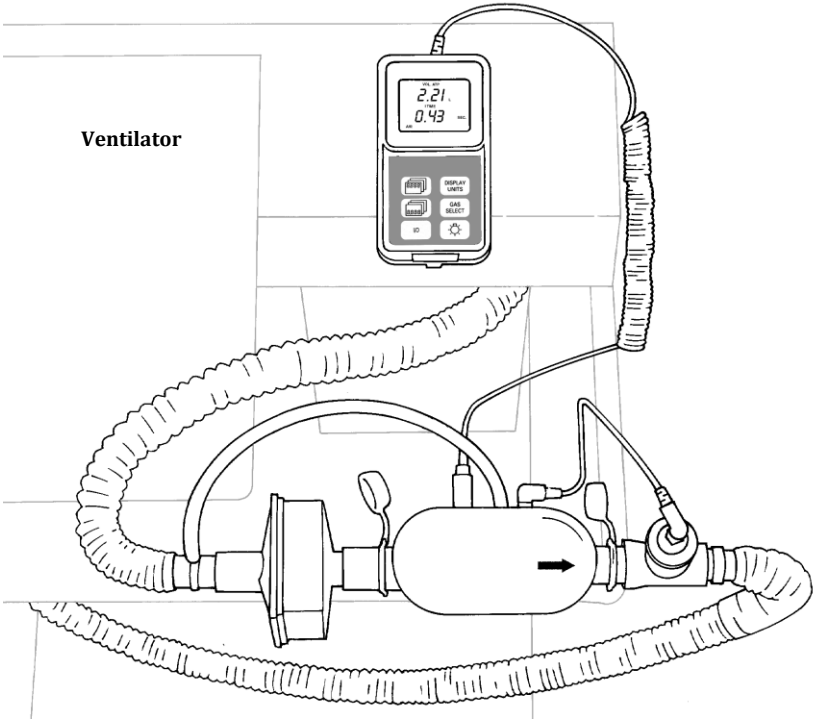
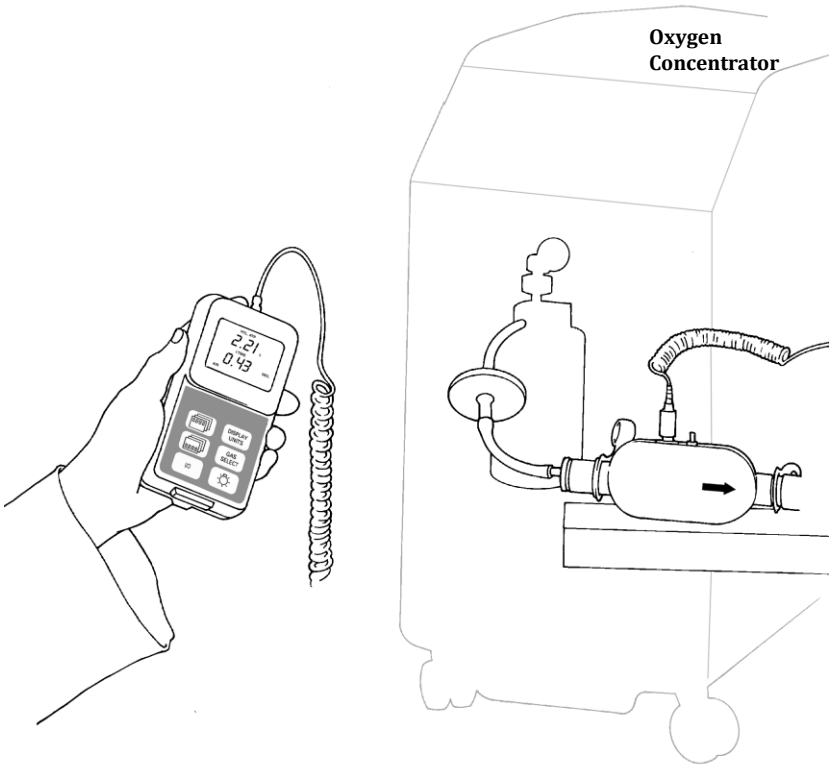

Figure 7. Installing a Flow Module into the Test Circuit
Figure 8. Certifier™ FA Test System Installed in an Oxygen Concentrator Circuit
5. Install the flow module into the test circuit (Figure 7, Figure 8).